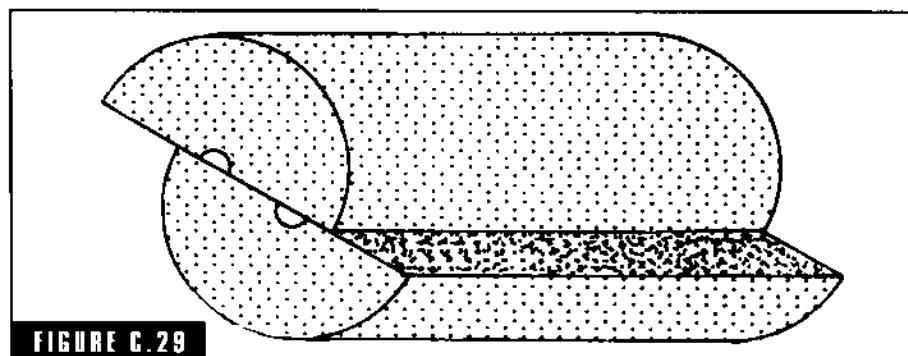

FIGURE C.29
**core shift** Distortion or variation of a cored cavity in a casting due to the core moving (shifting) position, or the misalignment of cores in assembling (Fig. C-29).